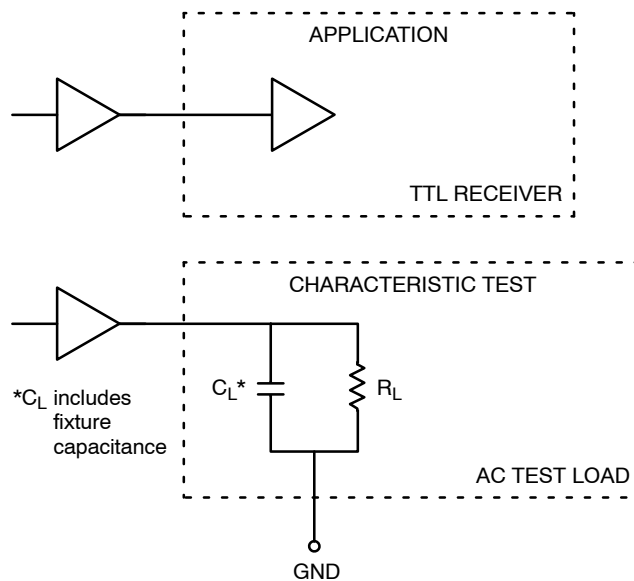

Figure 2. TTL Output Loading Used for Device Evaluation
7. $R_L = 500\ \Omega$ to GND and $C_L = 20\text{ pF}$ to GND. Refer to Figure 2.